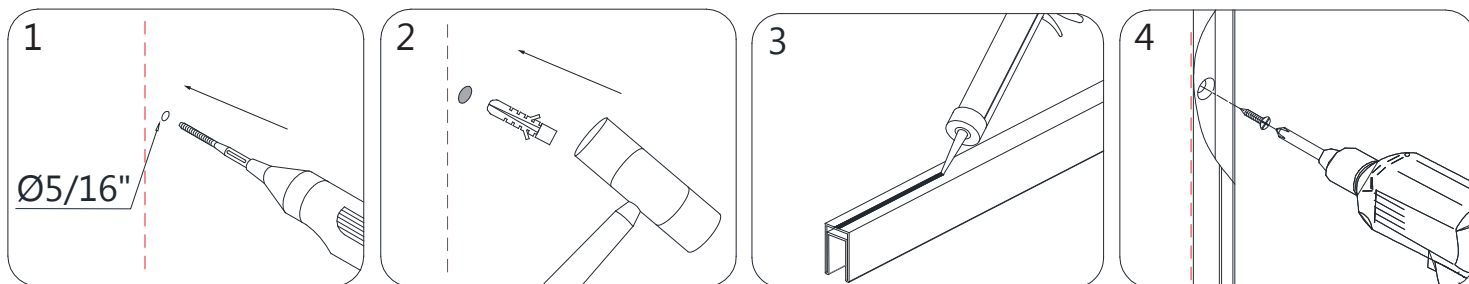

Fig 15
15. Remove the U-Channel and drill the holes in the wall using a $\text{Ø}5/16''$ drill bit and insert the $\text{Ø}5/16''$ **Plastic Wall Anchors (#16)** into the holes. Apply silicone into the screw holes and to the back surface of the U-Channel. Attach the **U-Channel (#01)** to the wall using the **Countersunk Screws ST4.2×40 (#17)**. (Fig 15)